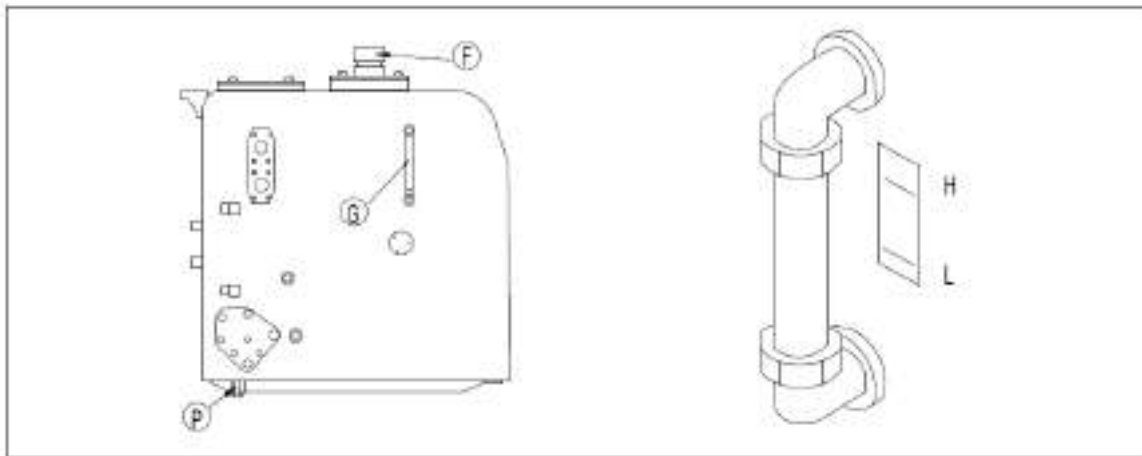

Figure 4-14 Oil level in the hydraulic oil tank
c). Open the right rear door of the machine and check the oil level gauge (G) from the inspection hole of the hydraulic oil tank. The oil level should be between the H line and L line, as shown in Figure 4-14.
d). If the oil level is below the L line, you should add oil through the oil filling port (F) at the top of the hydraulic tank.
1. Do not add oil to a level above the H line, otherwise the hydraulic circuit may be damaged or oil ejection may be caused. If this happens, turn off the engine and discharge the excessive oil through the drain plug (P) when the hydraulic oil cools down.